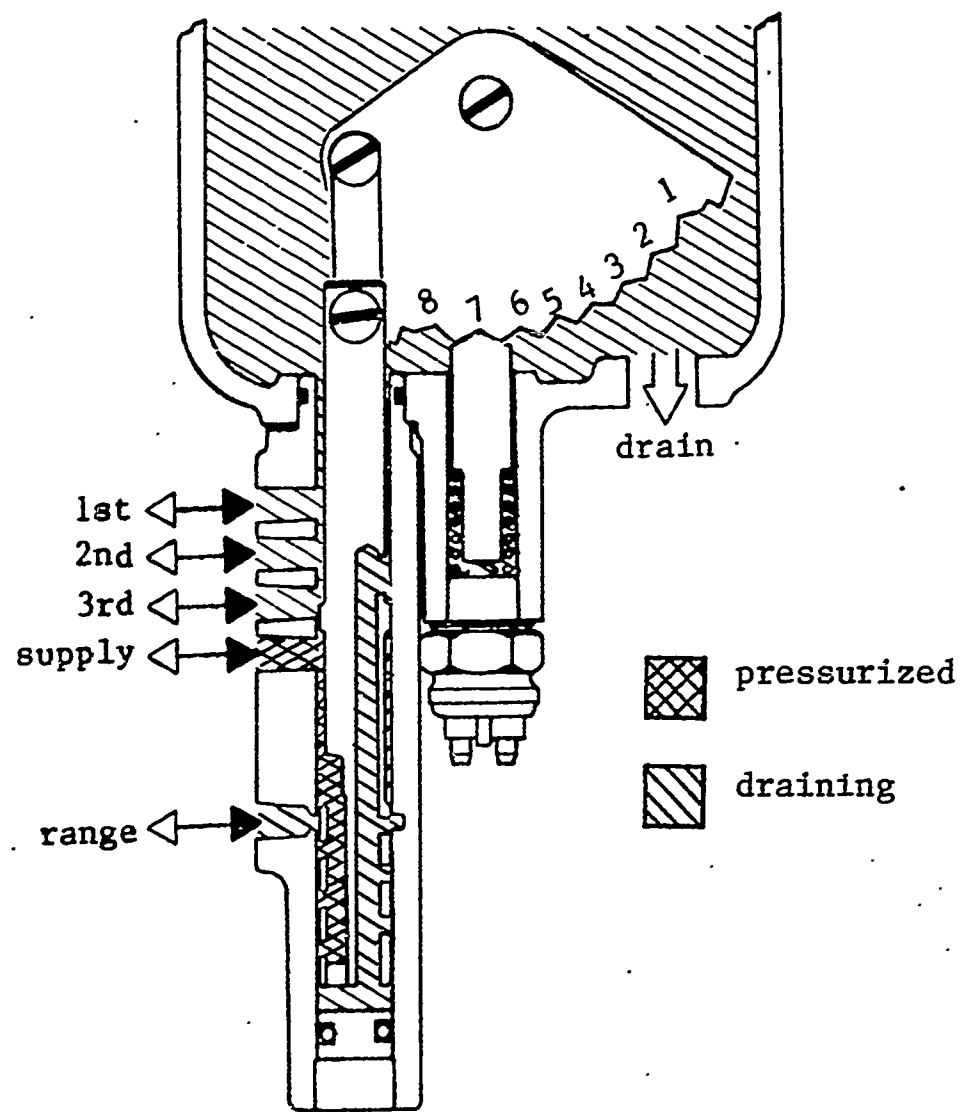

Fig. 9 Control valve in seventh gear
Figure 9 shows the shift control valve in seventh gear position or fourth reverse. There is no pressure in hoses (1), (2), (3) or in the range hose. They are all draining off.